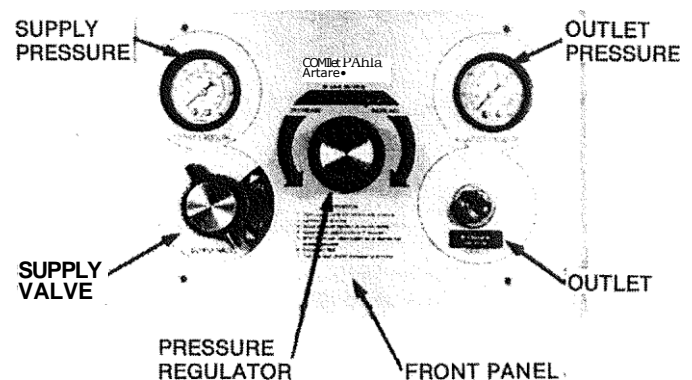

FIGURE 1
1. Refer to Figure 1. The installed piping system supplying the Control Panel should be pressurized up to 200 psig maximum.